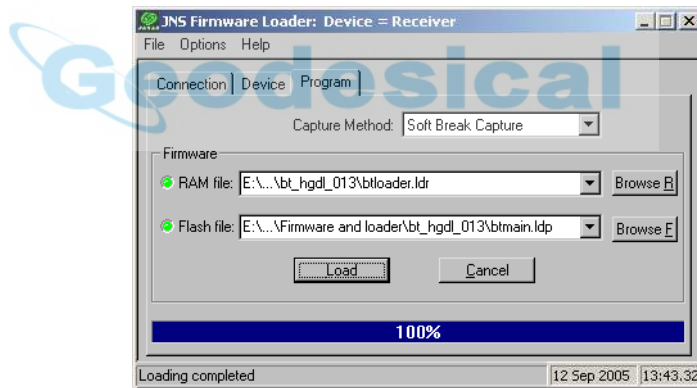

Figure 4-21. Bluetooth Firmware Load Complete
4. Click **Load** and wait until 100% of the files load into your receiver (Figure 4-21).